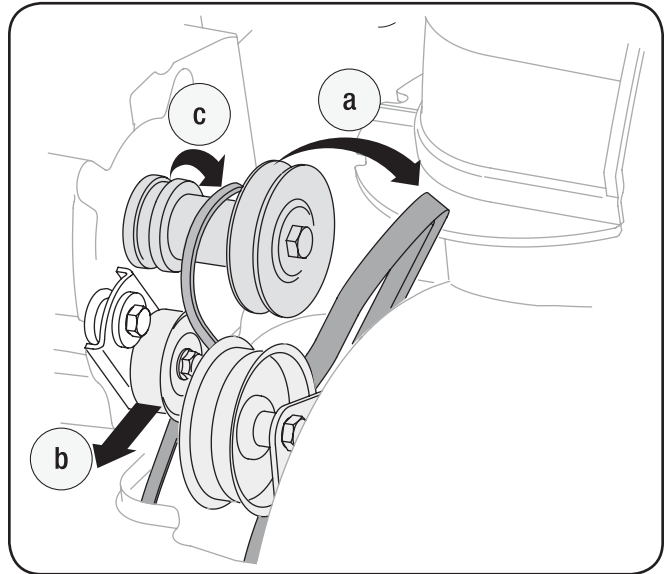

Figure 7-6
- a. Roll the auger belt off the engine pulley. See Fig. 7-6: